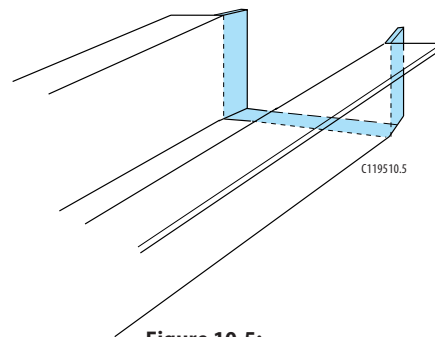

Figure 10-5:
4. Step the tabs inward to allow the service rail to fit inside the original rail (figure 10-5).